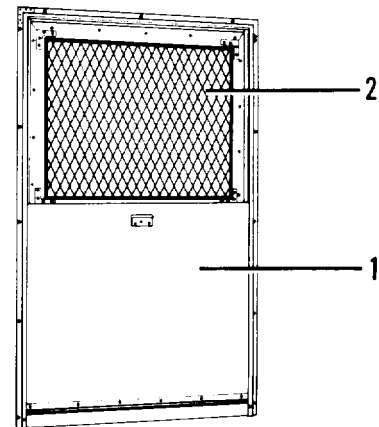

Figure 2-16. Stationary window
- . One stationary window (front) (figure 2-16).